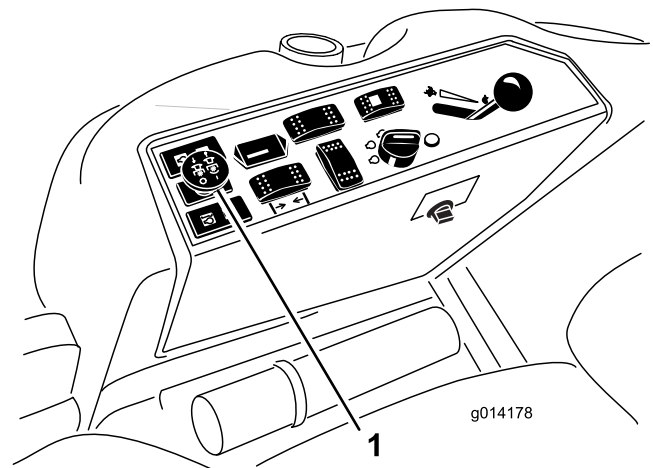

Figure 15
3. Pull up on the PTO switch to engage it (Figure 15).